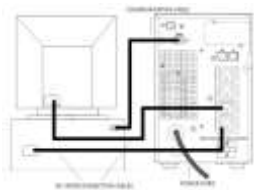

Fig. 3 Example of Installation of Plug & Play products
- After charging, connect the loads to the UPS (see the example in fig 3).